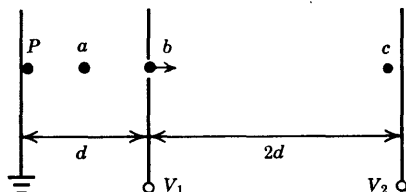

Figure 4.14
2. In Fig. 4.14, an electron is introduced at point P in an evacuated space. It is accelerated from rest toward anode 1 at voltage V_1 and passes through a small hole at point b . In terms of the given quantities and the properties of an electron: